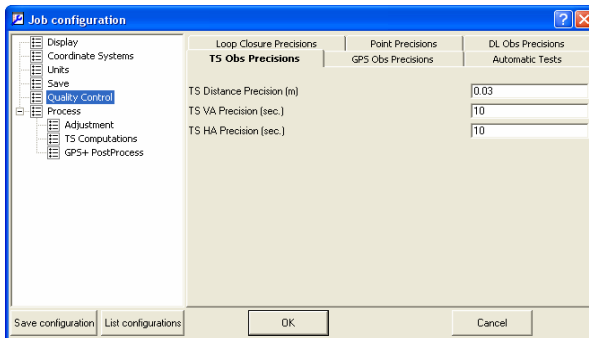

Figure 2-31. Job Configuration – TS Obs Precisions
- The *TS Obs Precisions* tab sets precision for a distance and horizontal/vertical angle of TS observations (Figure 2-31 on page 2-21). If the values of the distance/horizontal/vertical residuals from a net adjustment—with Rejection Criterion-By Control—are worse than the values set in this tab, the observations are highlighted in red on the *TS Obs* tab, Map view, and Reports. These observations will not be used in the final adjustment of the net.